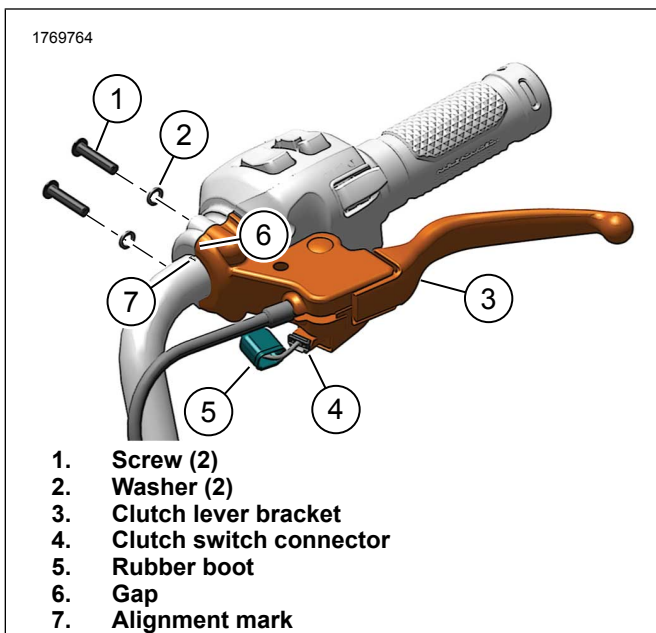

Figure 4. Clutch Lever Bracket
1. Figure 4 Remove clutch lever bracket.
- a. Slide rubber boot (5) back.
- b. Disconnect clutch switch connector (4).
- c. Remove screws (1).
- d. Remove washers (2).
- e. Remove clutch lever bracket (3).
- f. If alignment screw was removed install and snug alignment screw (4).
- 5. Figure 4 Install clutch lever bracket.
- a. Place clutch lever bracket (3) on LHCM bracket.
- b. Install screws (1) and align gap (6) with alignment Mark (7).